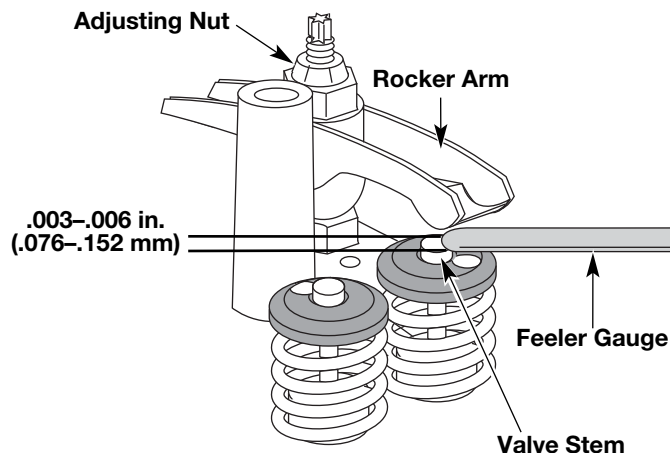

Fig. 33
7. Slide the feeler gauge between the rocker arm and the top of each valve stem. Measure the clearance between the valve stem and rocker arm (Fig. 33). Measure both the intake and exhaust valves.
- a. Turn the adjusting nut using a 5/16 inch (8 mm) wrench or nut driver (Fig. 33).